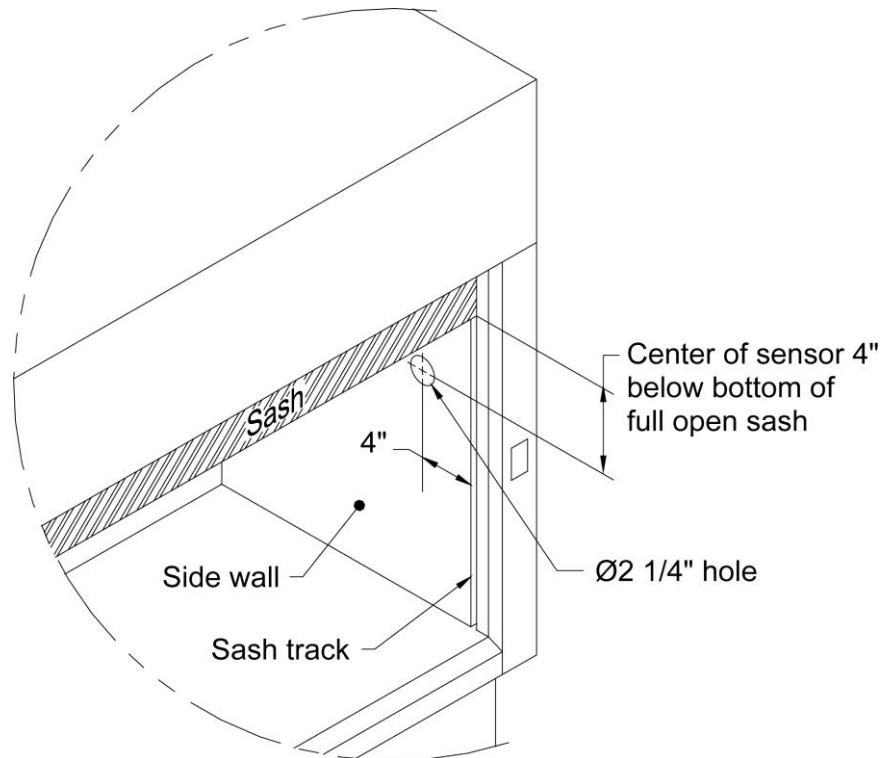

Figure 2: Sidewall Velocity Sensor Location
1. Determine the Sidewall Velocity Sensor Location (Figure 2).
2. Drill a 2 1/4" hole through the fume hood inner wall lining at this location (Figure 2).